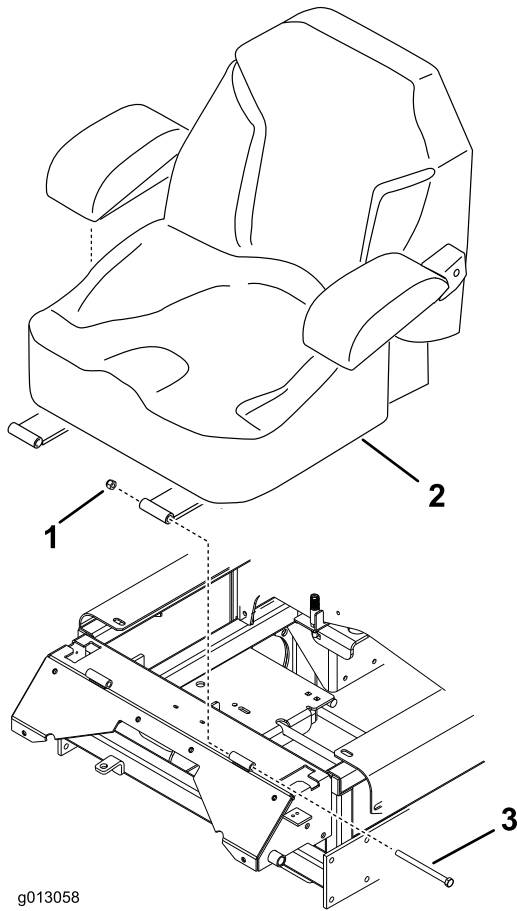

Figure 10
8. Install the seat at the hinges with 2 bolts (3/8 x 5 inches) and 2 locknuts (3/8 inch) (Figure 10).